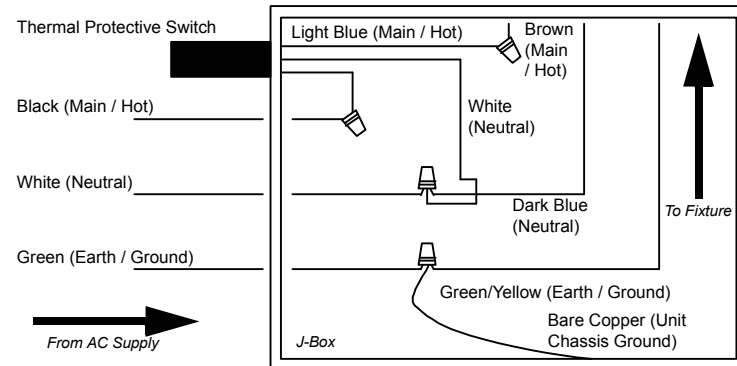

Figure 6: J-Box Electrical Connections - 120VAC Markets
- 1) Remove cover from Junction (J) Box.
- 2) At J-Box, connect AC input wiring as illustrated in **Figure 6**. Refer to "Power Requirements" on page 7 for power requirements.